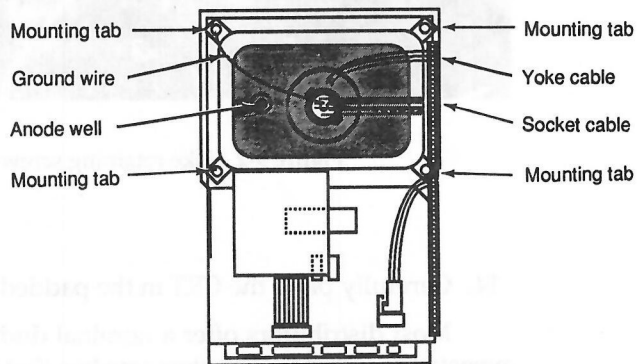

Figure 9-4 CRT mounting details.
12. As shown in Figure 9-4, the CRT is held in place by four T-15 screws. Remove them using a T-15 screwdriver with an 8-inch shaft. Note the ground wire attached to the upper left screw.